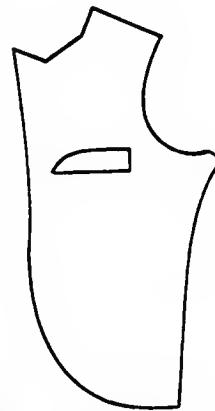

Fig. 127. Position of armseye end of a breast pocket.
- B. A breast welt pocket finished is about  $\frac{3}{8}$  in. deep and 3½ to 4 in. or 1½ in. deep by 4½ in. long for men's coats. The armseye end of a breast pocket is on the straight warp line and the other end is curved (Fig. 127).